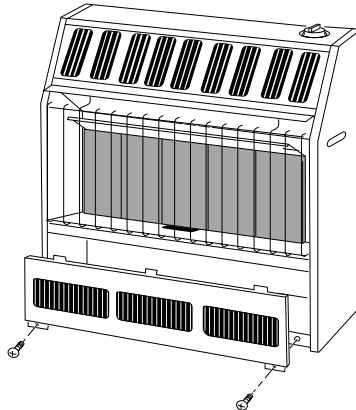

Figure 8 - Removing Front Panel of Heater (Model FB-5B Shown)
2. Pull bottom of lower front panel forward, then down (see Figure 8).
WARNING: Maintain minimum clearances shown in Figure 8. If you can, provide greater clearances from floor and joining wall.